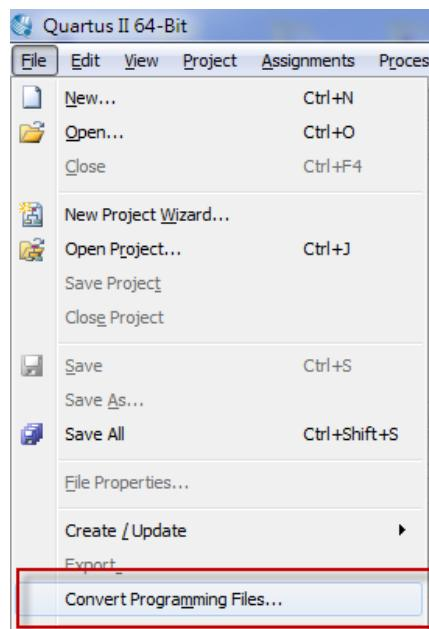

Figure 7-1. File menu of Quartus
1. Choose **Convert Programming Files** on Quartus window (File menu), See Figure 7-1.